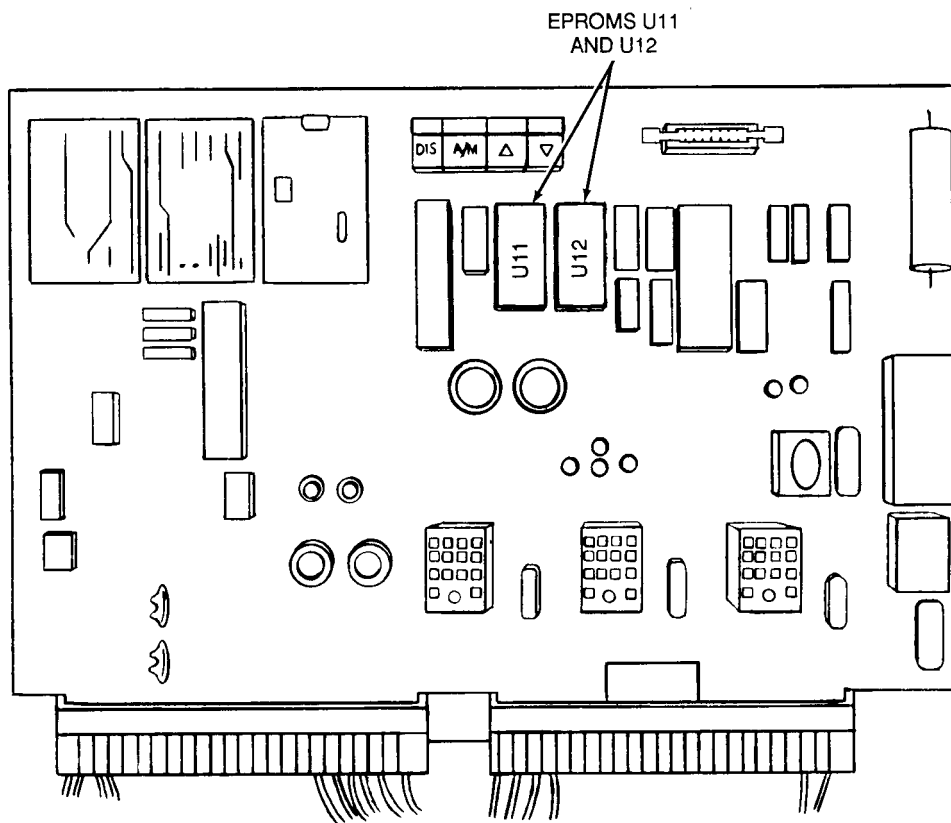

Figure 3-3. Main PCB (Model TC200) EPROM Replacement
3. On the main PCB, Figure 3-3, locate and remove old EPROMs U11 and U12.